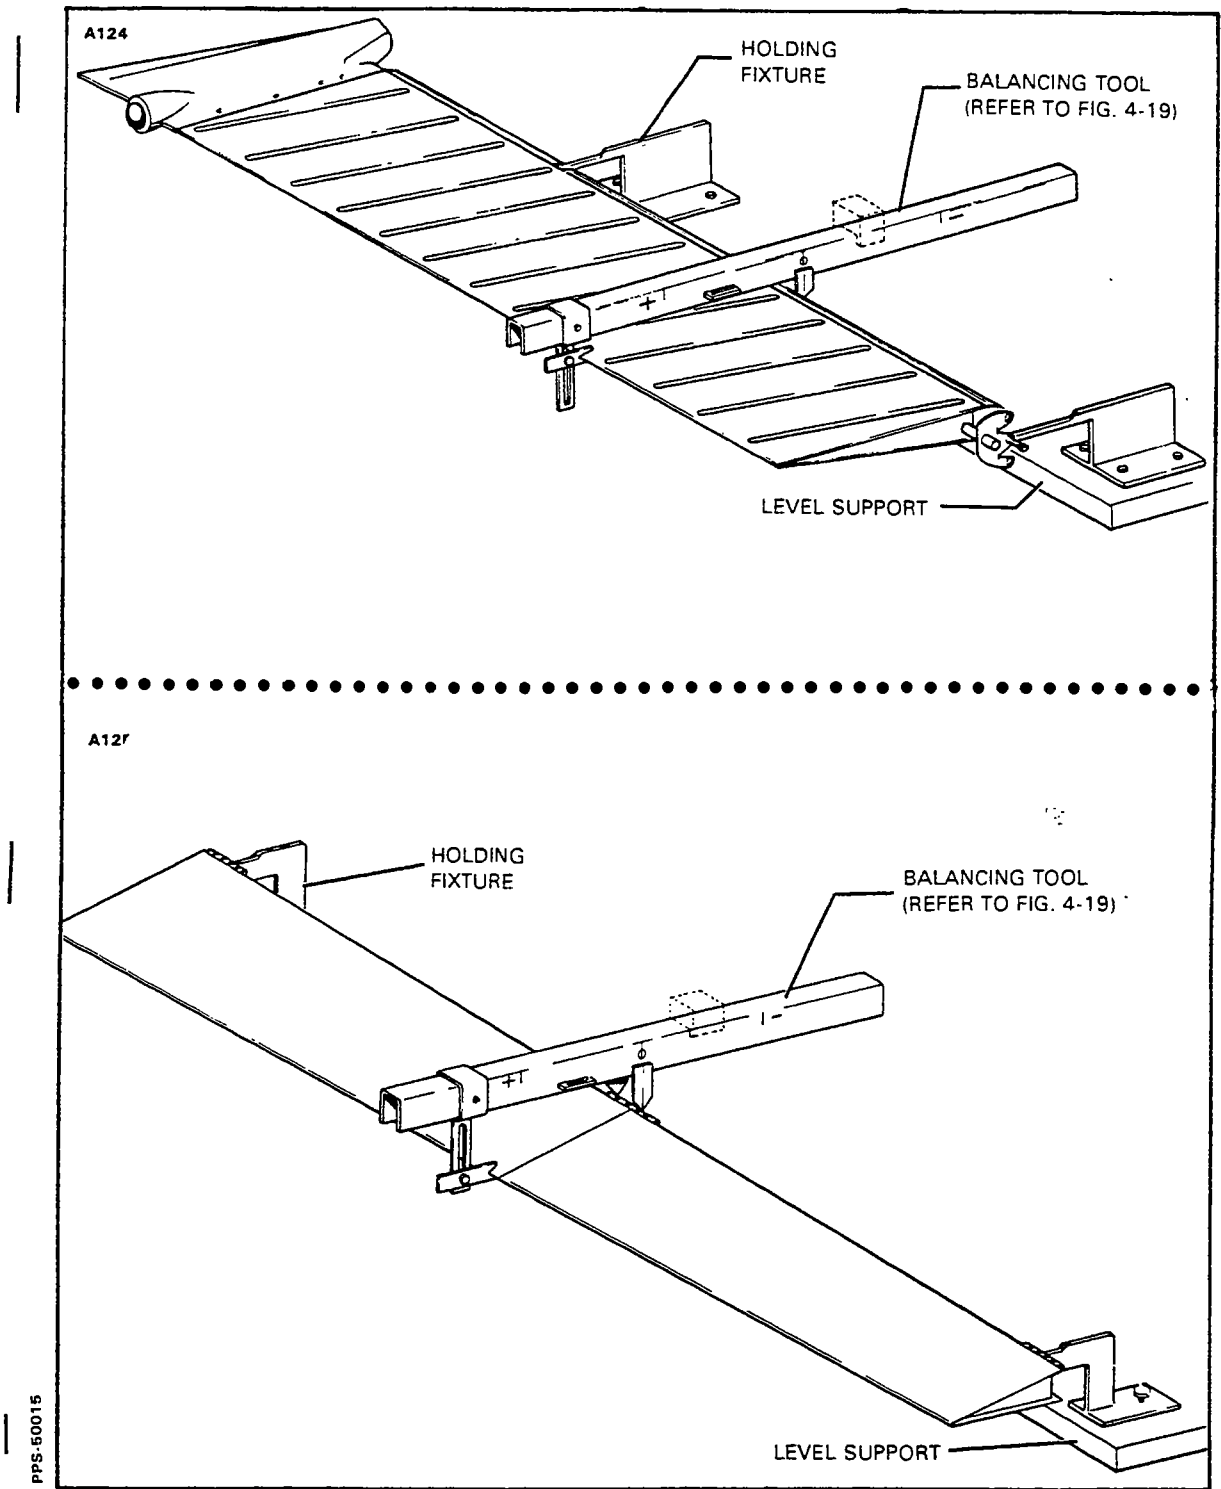

Figure 4-20. Aileron and Rudder Balance Configuration
- d. After balancing the tool, reattach it to the control surface per Figures 4-20 and 4-21. Keep the beam positioned 90° from the control surface hinge line.
### 4-73. BALANCING AILERONS. (Refer to Figure 4-20.)
### 4-74. BALANCING RUDDER. (Refer to Figure 4-20.)